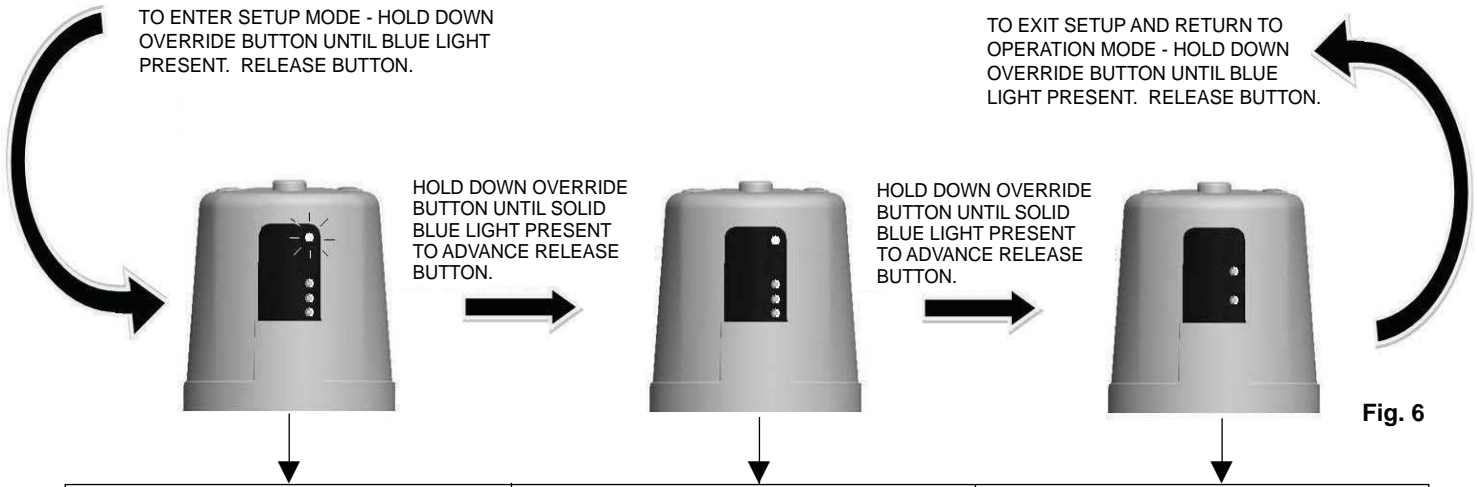
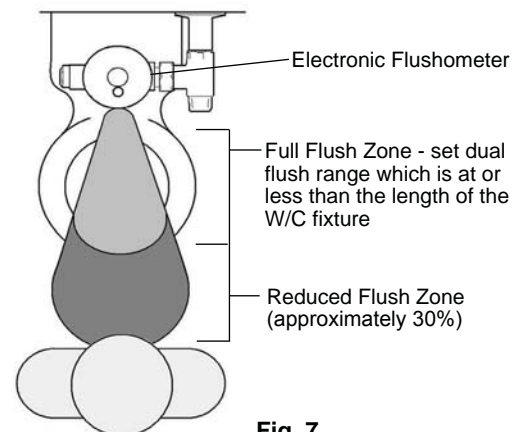

Fig. 6
Fig. 7
- While in Set-Up Mode, the user will move through the different adjustment modes one by one, in the order as described above. Use the override button to toggle through the different settings of the adjustment feature being altered. To advance to the next adjustment mode, hold down override button until blue light is present, then release the button. See Figure 6.
- Top blue light will be flashing if an object is detected, and each press of the override button advances to the next sensing distance. See Figure 6.
- Refer to Figure 6 for the different range settings.
- **To turn Dual Flush Mode ON** - while in dual flush adjustment mode, press the override button so that 2 or more red lights are present. Refer to Figure 6 for different dual flush range settings. Ensure that a proper dual flush range is selected which is at or less than the length of the water closet fixture. This way a user standing in front of the fixture will produce a reduced flush as opposed to a full flush. See Figure 7.